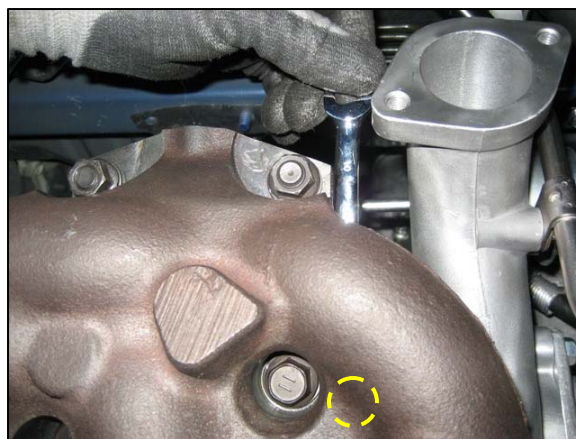

Fig. 41
43. Tighten the oil inlet banjo bolt (which was not fully tightened in step 36). Tighten from above using box-ended wrench as shown in *Fig. 41*. Yellow circle represents approximate location of bolt as seen from above. Torque spec is 22-24 lb-ft (30-33 N-m) (1 bolt, 10mm wrench). See *Fig. 41*.